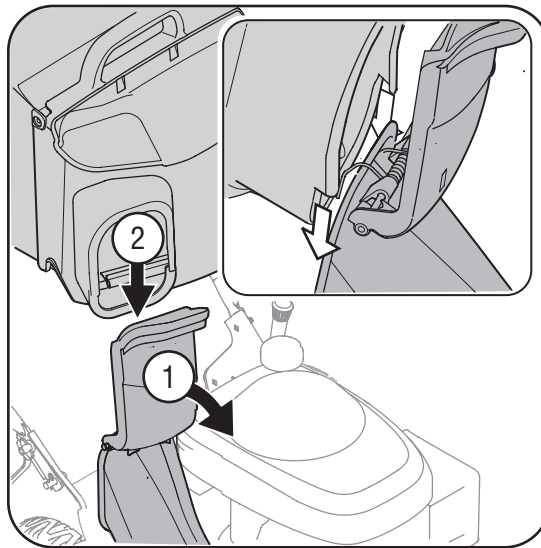

Figure 3-5
- c. Lift chute door on the grass bag adapter and slide grass bag onto the adapter. See Figure 3-5.